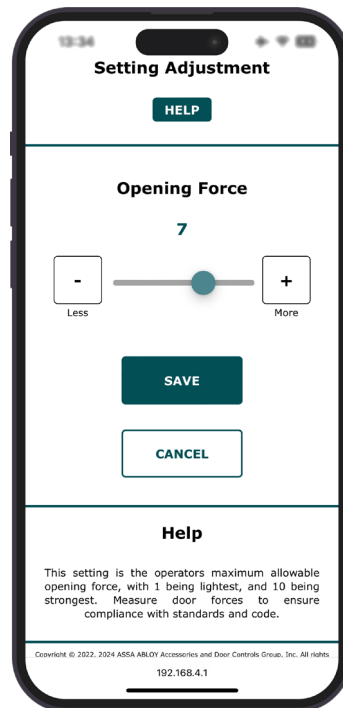

Figure 13
- For options that have a value range, a slider will be displayed allowing the desired range to be selected, as shown in Figure 13.